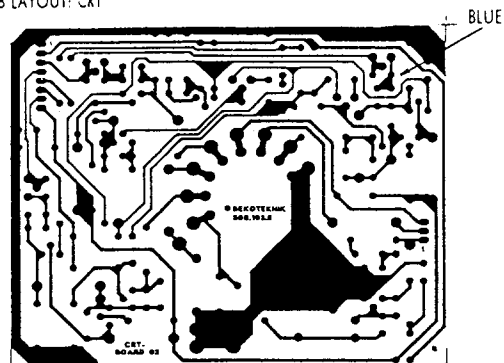

Figure 11
- 1— Oscilloscope probe is connected to the end of "Blue" Potentiometer which is connected to R1204. And Fi 406 is adjusted as seen in Figure 11.